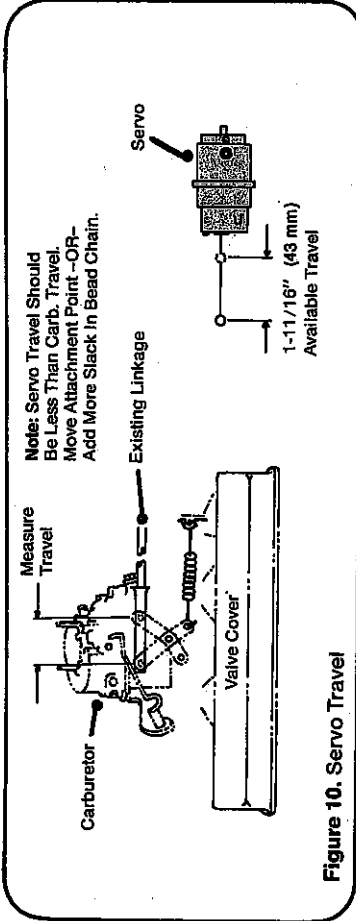

Figure 10. Servo Travel
- (k) The servo's full travel is  $1\frac{1}{16}$ ". Check the full travel (thru kick-down) of your carburetor linkage (Fig. 10). If your carburetor attaching point has more than  $1\frac{1}{16}$ " travel, pull the chain snug and in line with the just installed coupling, slack off one ball and cut the remaining chain off. If your carburetor attaching point has less than  $1\frac{1}{16}$ " travel, pull the chain snug and in line with the just installed coupling, slack off enough so that when the servo has traveled a full  $1\frac{1}{16}$ ", the carburetor will not quite reach its full travel, cut the remaining chain off.